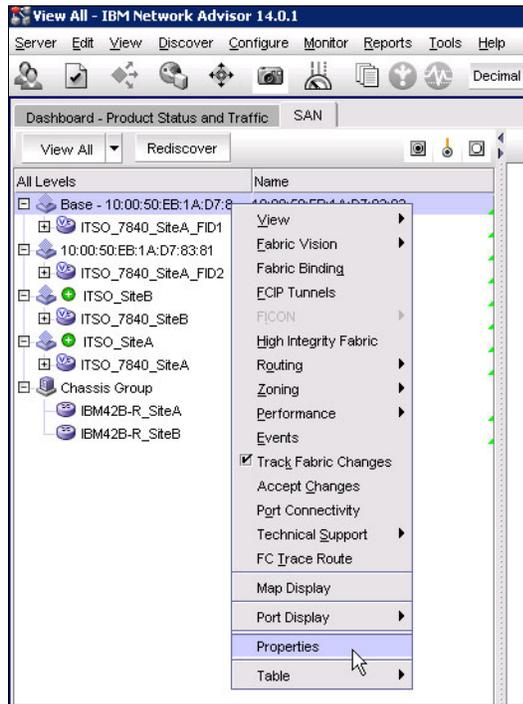

Figure 6-17 Check the properties of the fabric
19. It is optional to rename the new fabric to a more meaningful name. Figure 6-17 shows how to display information.